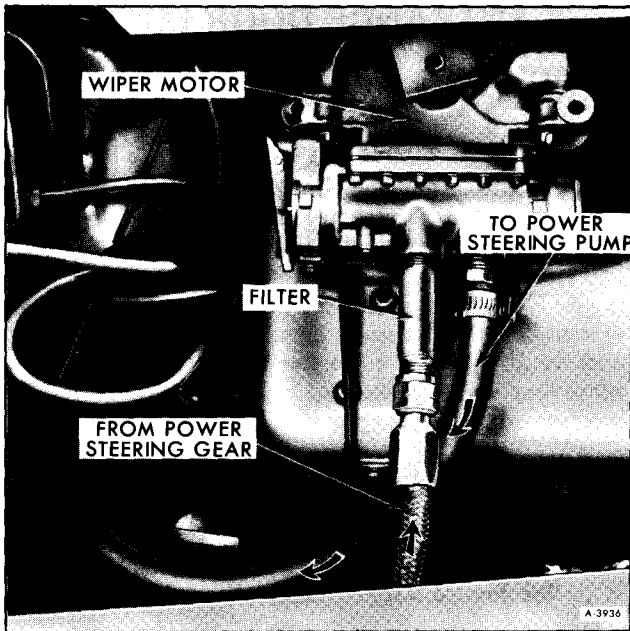

Figure 27—Windshield Wiper Motor
4. Connect hoses to motor assembly as shown in Figure 27.
1. Disconnect hose from windshield wiper motor filter shown in Figure 27.